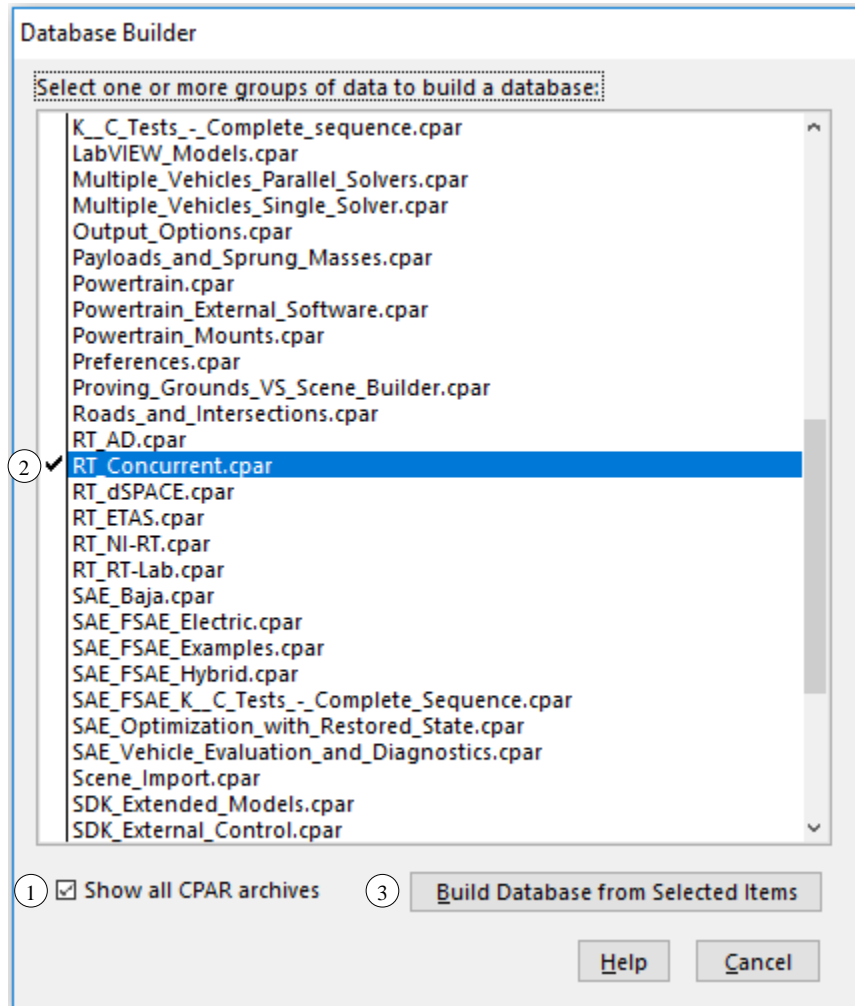

Figure 5. Database Builder
To build a new database, launch CarSim and select **Open Database Builder...** from the Select Recent Database window. In the Database Builder window (Figure 5), toggle on **Show all CPAR archives** ①. Select **RT_Concurrent.cpar** ② along with any other data groups that you would like to include in the new database. Click **Build Database from Selected Items** ③. Select the folder where you would like to save the database and click **OK**.